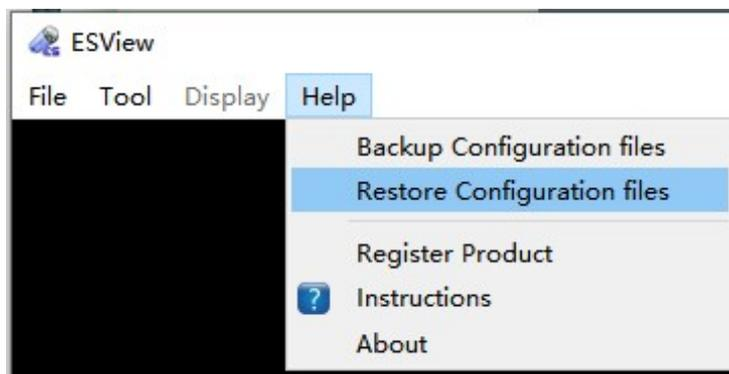

Figure 4-73: Restore Configuration File Manually
4. Select “Help” → “Restore configuration files” to open the restore configuration file selection interface, select the folder where the configuration files to be restored are located and click “Select Folder”, then click “Confirm” in the pop-up dialog box to confirm configuration file restore. A dialog box will pop up to confirm the successful restore, as shown in Figures 4-73 to 4-76.